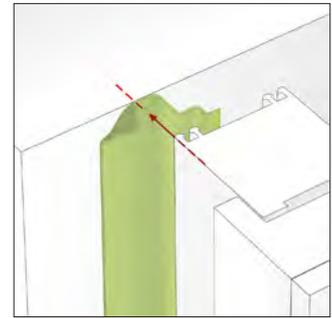

Fig. 2
- Bonding in 'W' format (Fig. 2):- peel off the liner from the narrow self-adhesive and bond to the outer edge of the window frame in a suitable location (to flat profile rather than across profile 'legs'). Must be applied to the window prior to installation.
narrow self-adhesive on the printed face of the membrane and locate onto the outside edge of the frame in a suitable location (to flat profile rather than across profile 'legs' (see Fig. 2)). Apply a continuous length around all four sides of the frame. At each corner, allow an extra 20 mm forming a 'loop' and folding the membrane and bonding to itself. When the end section meets the start, allow a 50mm overlap. Once the membrane is applied, connect any fixing brackets as necessary over the membrane.